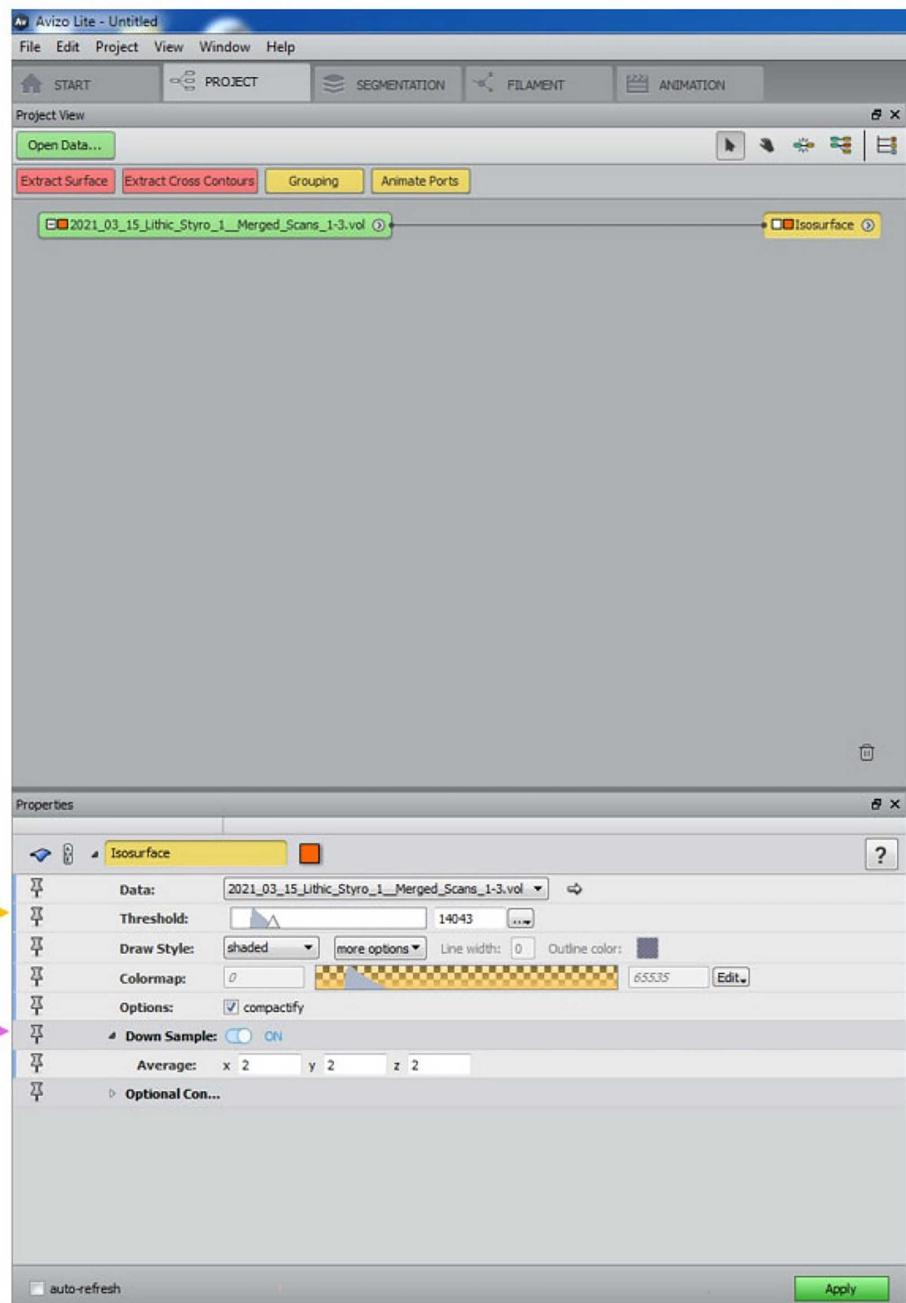

Fig. 12: Project view with generated 'Isosurface' label. Parameters for the isosurface can be adjusted in the 'Properties' panel below.
- 21.2 Click on the newly generated 'Isosurface' label (Fig. 12) and choose a 'Threshold' value (yellow arrow in Fig. 12) that separates the artefacts from the surrounding air, Styrofoam etc.
Enable and use 'Down Sample' (pink arrow in Fig. 12) to run a fast isosurface test extraction to check whether the chosen 'Threshold' value works well.